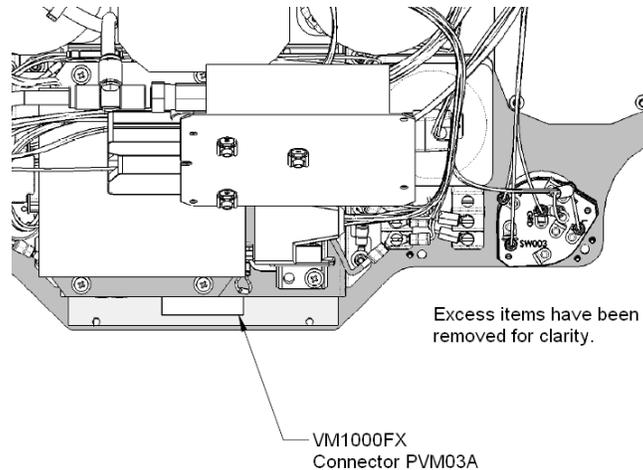

Figure 34-16 Location of the Connector on the VM1000FX
8. Connect the ribbon cable to the VM1000FX display. See Figure 34-16 for the location of the connector on the VM1000FX.